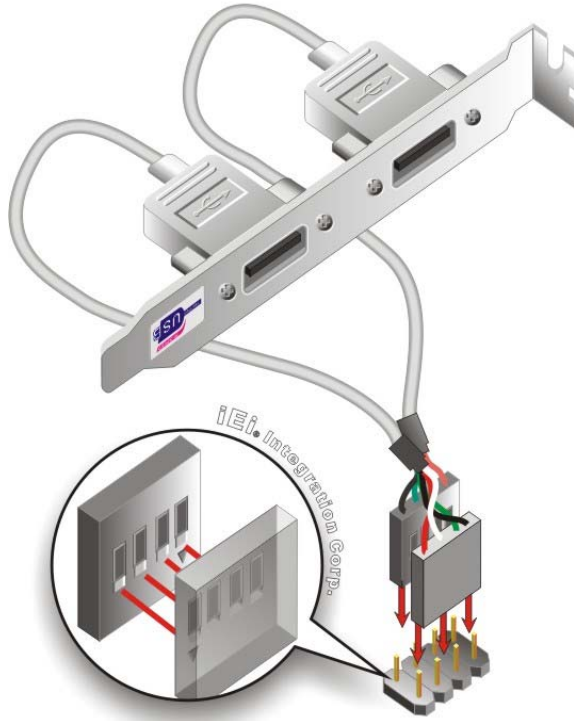

Figure 4-14: Dual USB Cable Connection
Step 3: **Insert the cable connectors.** Once the cable connectors are properly aligned with the USB connectors on the SPCIE-C2060 Series, connect the cable connectors to the on-board connectors. See **Figure 4-14**.